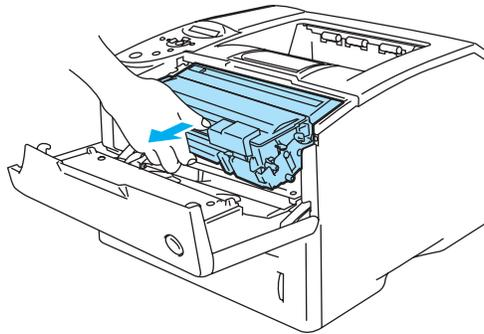

Figure 5-13
- To prevent damage to the printer from static electricity, do not touch the electrodes shown in Figure 5-13.